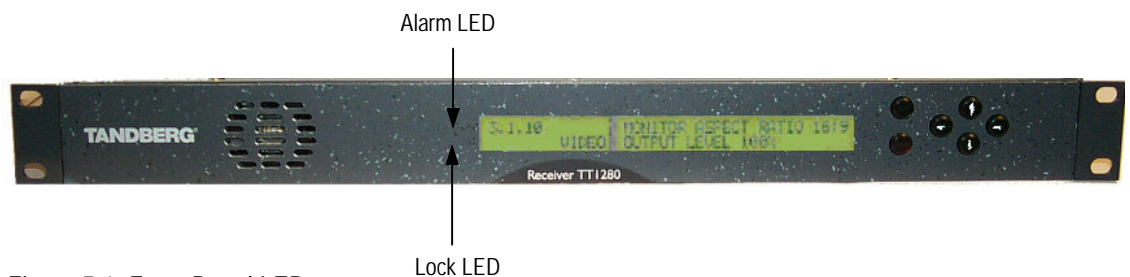

Figure 5.1: Front Panel LEDs
- Figure 5.1: Front Panel LEDs 5-3